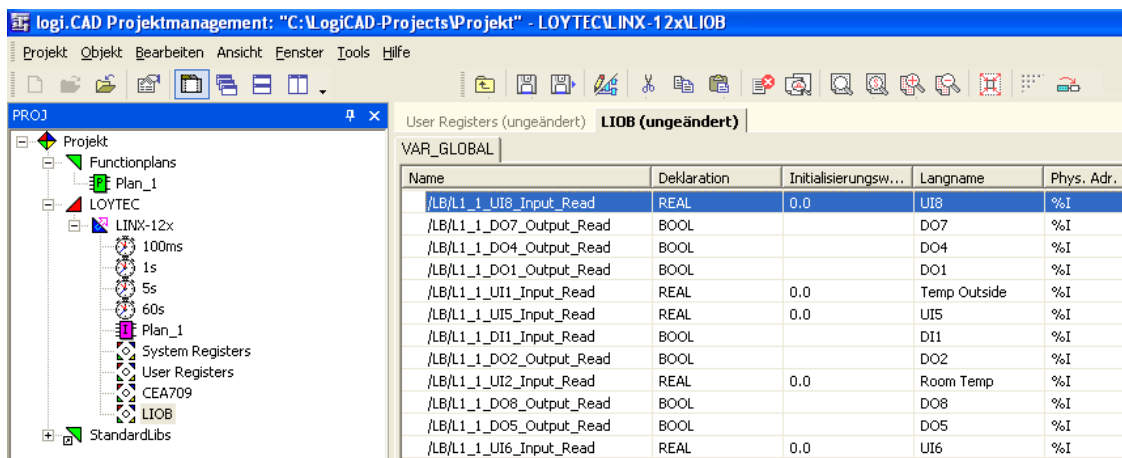

Figure 20: Exposed PLC data points appear in LogiCAD
- The data points now appear as variables in LogiCAD in a folder under the device folder. The folder is named specific to the technology of the data points, e.g. LIOB for all L-IOB I/Os that are exposed as a PLC variable. An example is shown in Figure 20.